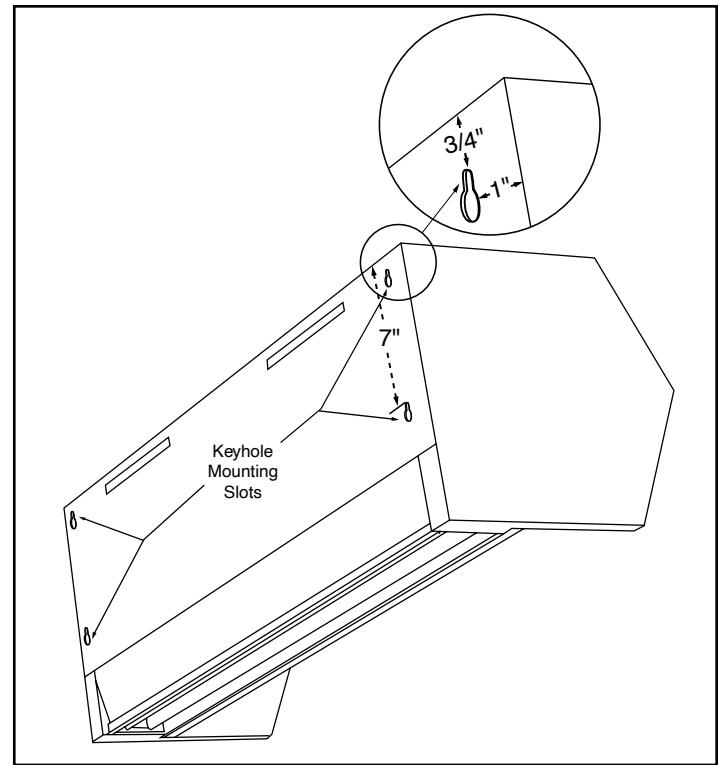

Figure 4
3. The air curtain is equipped with four 1/4" keyhole mounting slots on the back of each unit for wall mounting. The slots are spaced 1" from the ends, and 3/4" and 7" from the top. **See Figure 4.**